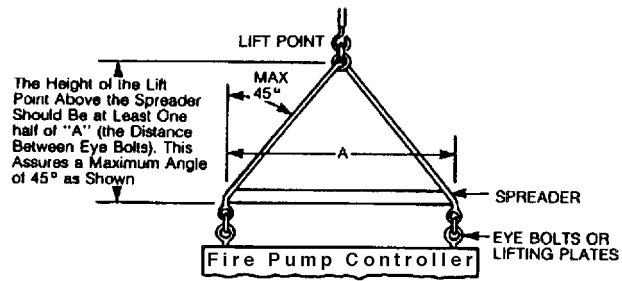

Figure 2-1
2.1.11 When a platform elevator is not available to move the fire pump controller between elevations, overhead hoisting may be used. Lifting plates and eye bolts (Figure 2-1) or channels, angles or bars with lift holes (Figure 2-2) may have been provided as a permanent or removable part of the fire pump controller.
2.1.12 Use spreaders (Figure 2-1) to provide the vertical lift or lifting plates and the eyebolts to avoid eyebolt or plate failure or crushing or both, or otherwise damaging the fire pump controller frame or its finish.
2.1.12.2 To reduce the stresses on the rigging or spreaders, do not allow the angle between the lifting cables and vertical to exceed 45 degrees (Figures 2-1 and 2-2).